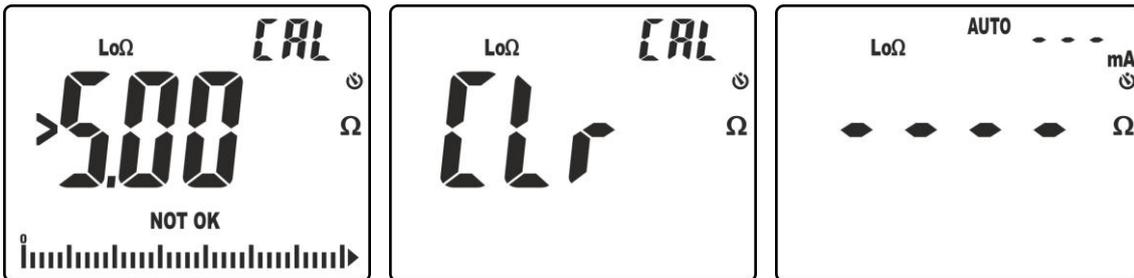

Fig. 34: Results of zeroing not correctly performed
6. Messages “ $>5.00\Omega$ ” and “NOT OK” are initially shown on the display (see Fig. 34 – left side). Subsequently, message “CLr” is shown, to indicate that calibration has been cancelled (see Fig. 34 – middle) and the message “ZERO” is not shown in the measuring screen (see Fig. 34 – right side).